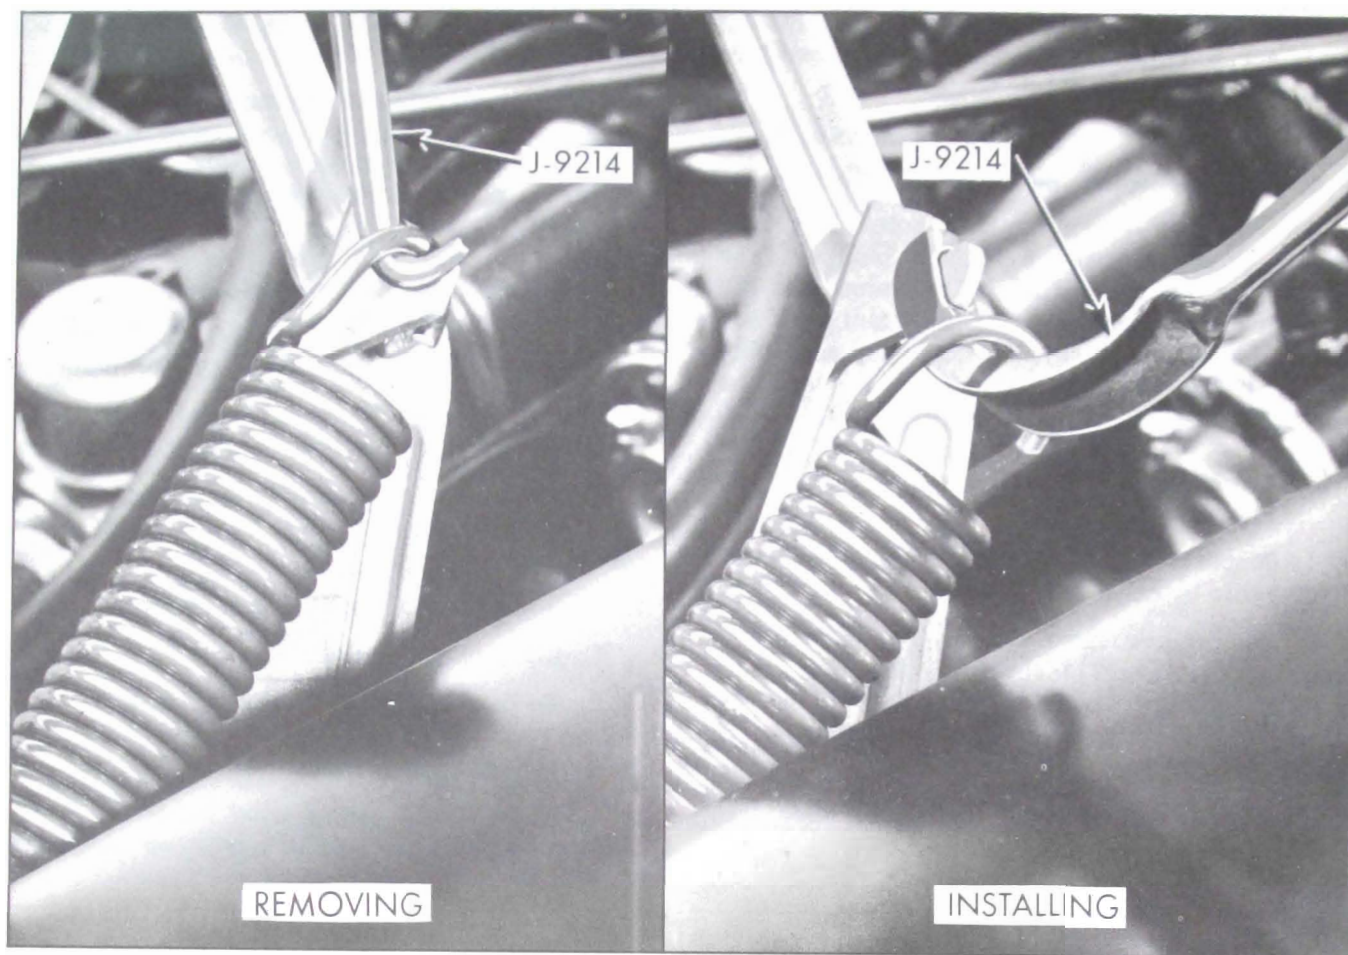

Figure 12-8—Removing and Installing Hood Hinge Spring
2. To remove hood spring insert Remover and Installer J-9214 through loop in forward end of spring. Push tool toward rear of car using hinge as a pivot and carefully insert spring from notch. See Figure 12-8.
4. To replace hood spring, insert Remover and Installer J-9314 through loop in forward end of spring. Push tool upward, using hinge as a pivot, and seat spring into notch. See Figure 12-8.